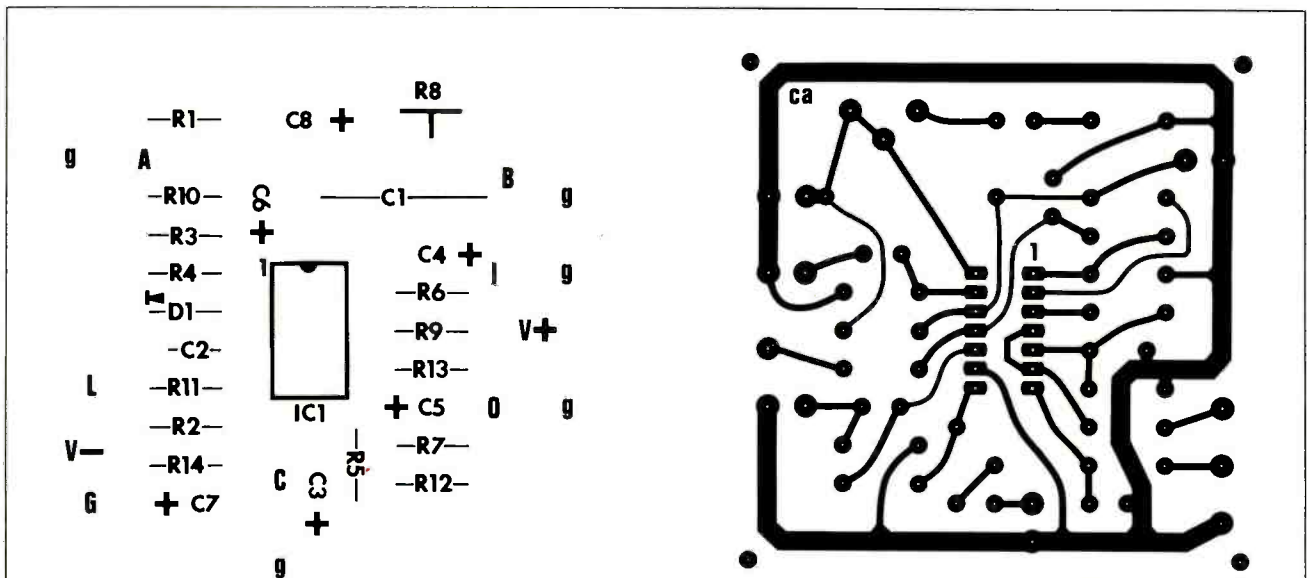

Figure 4
**SOLDERING the CIRCUIT BOARD:** Referring to Figure 4 (the component side of the board) and the parts list, solder the various components in place. Start with the resistors first, then the IC socket, capacitors and trimpot. Check that all solder connections are well made, then proceed to the next section.